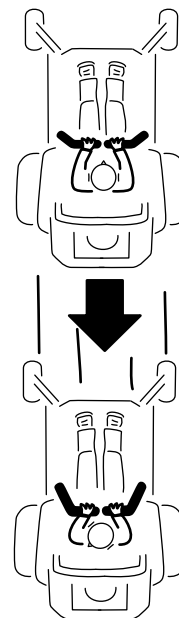

Figure 28
2. To go backward, slowly pull the motion-control levers rearward (Figure 28).